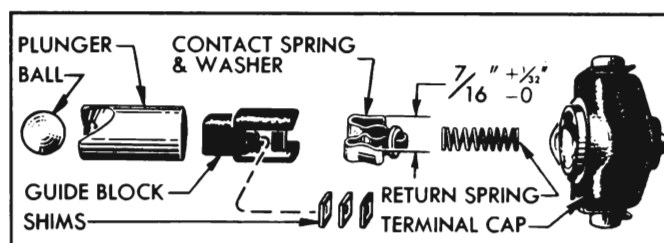

Figure 10-31—Carter Accelerator Vacuum Switch Parts
1. Disconnect wires from terminals. Hold down on switch terminal cap while removing hold down clip. Remove terminal cap and return spring, then lift out switch guide block with contact spring and shims. Do not lose timing shims and the spring washer on contact spring. See figure 10-31.
4. Check condition of contact spring and replace it if burned or otherwise damaged. The free width of spring across the points, with return spring washer in place is  $\frac{7}{16}$ " +  $\frac{1}{32}$ " - 0. See figure 10-31.